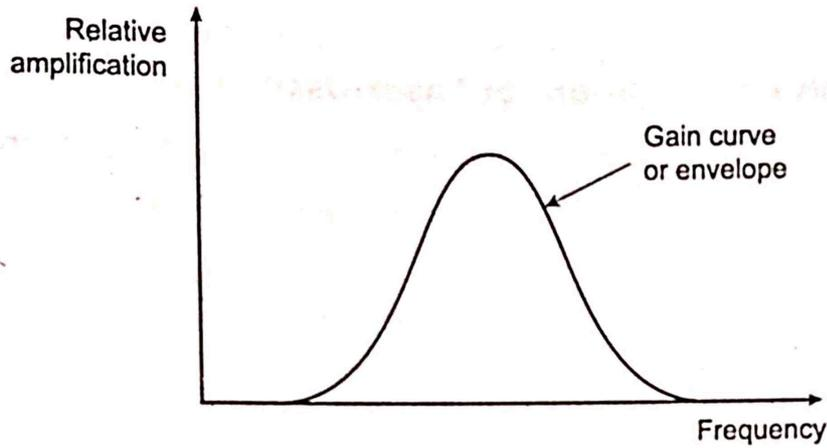

Fig 5.7 The relative amplification in the laser amplifying medium showing the broadened laser transition line or gain curve.
- ♣ The amplification within the laser medium results in a broadened laser transition or gain curve over a finite spectral width as illustrated in Fig 5.7. The spectral emission from the device therefore lies within the frequency range dictated by the gain curve.